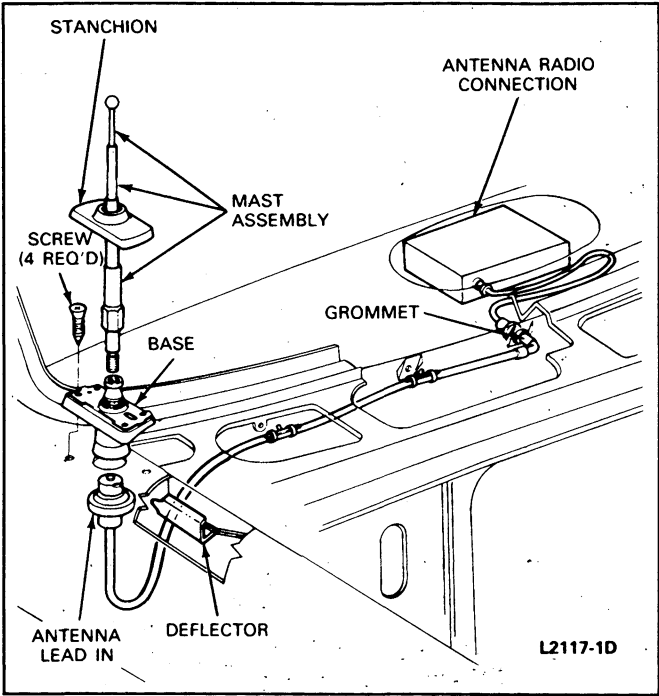

FIG. 3 Antenna Installation—E-150—E-350
4. Inside the vehicle, snap the antenna cable to the two retaining clips, along the cowl top (Fig. 3).